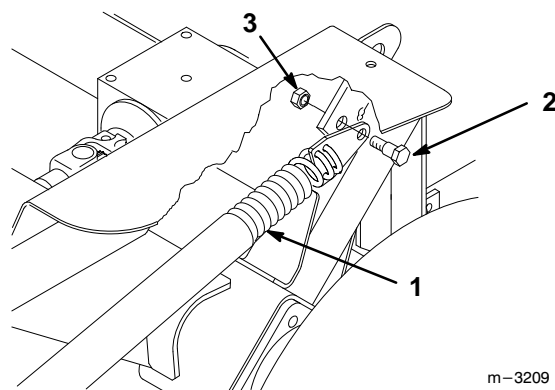

Figure 4
6. Install 3/8" x 7/8" (23 mm) shoulder bolts and 3/8" locknuts securing spring end plate assemblies to traction unit (Fig. 4).